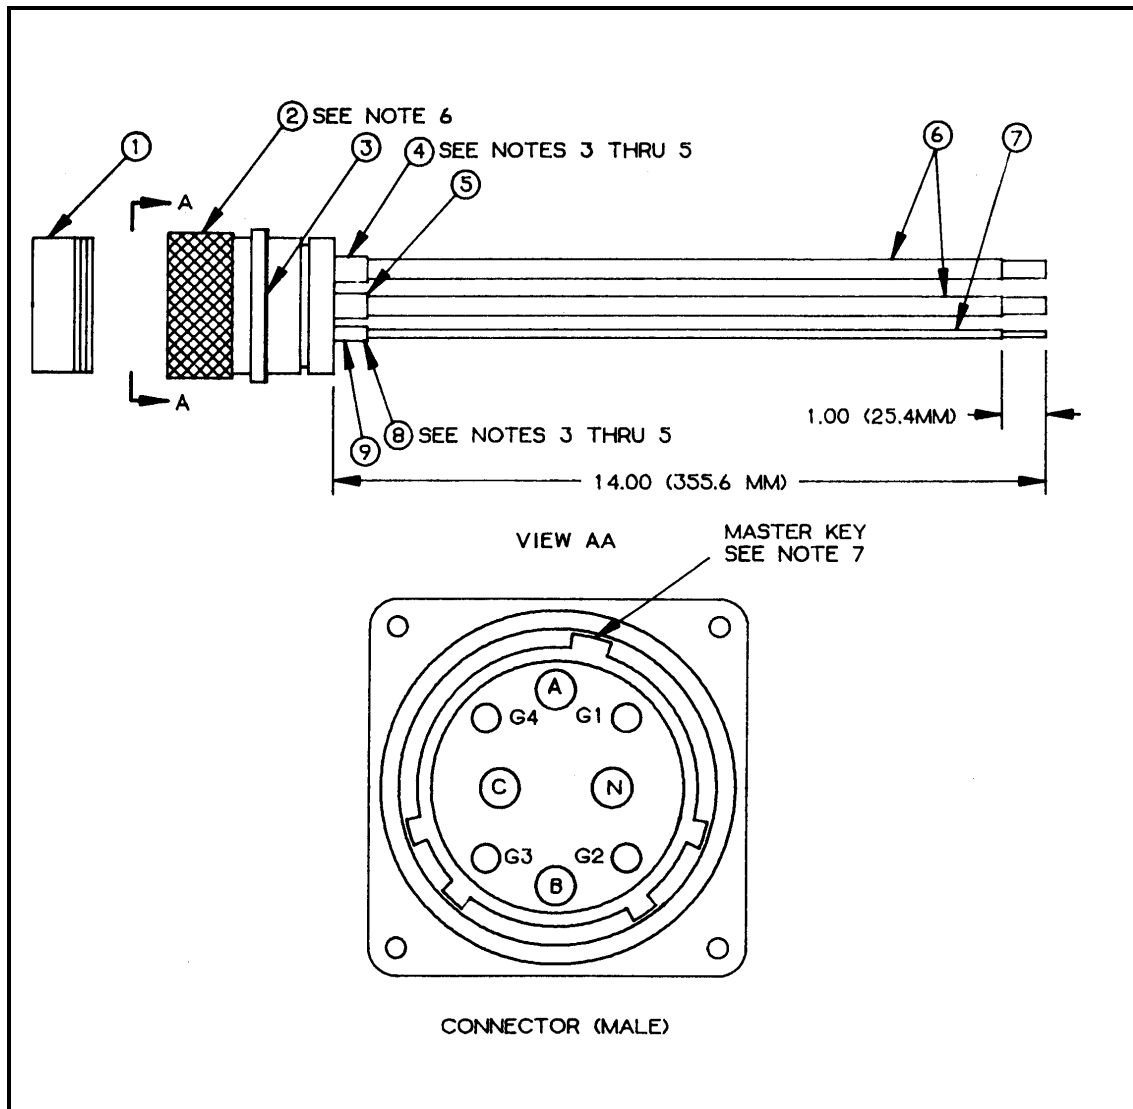

Figure F-6. 100-Amp, Input Connector Assembly, (J1)
F-6 100-Amp, Input Connector Assembly, (J1)**Component Legend for Figure F-6**
- c. Electrical connector (Figure F-6, Item 2) is furnished with the following: